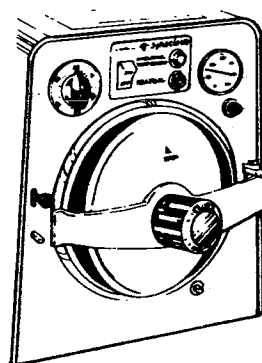

Figure 2B. Partially Open Door.
a. **To open** — Unlock door by turning doorknob counterclockwise until it stops. While firmly holding doorknob pull door forward and to the right. Then pull door and hinge forward and to the left so that left edge of door clears nose of shell before right edge (Fig. 2B).